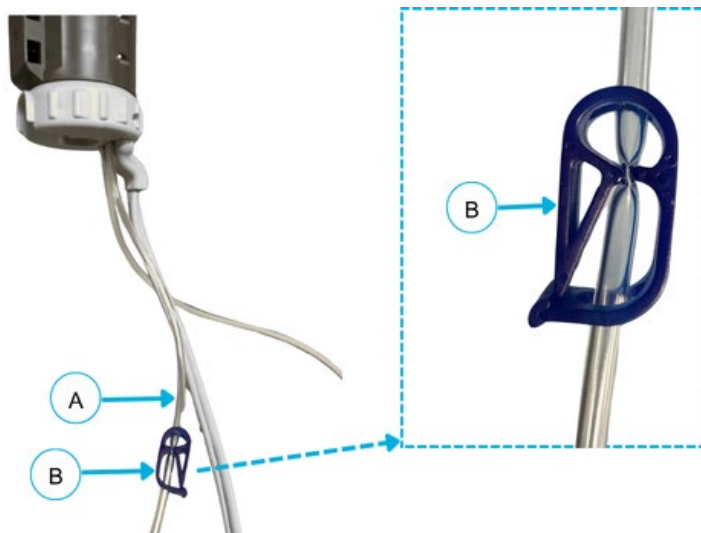

Figure 11-7: Delivery Device Drain Line
2. Close the clamp (**B**) to ensure that saline flows through the Delivery Device during the procedure (**Figure 11-7**).